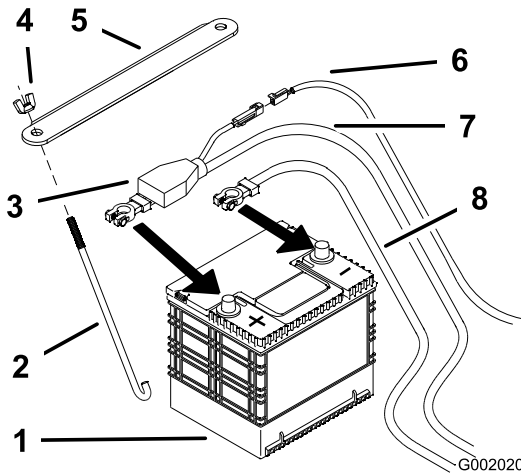

Figure 53
4. First disconnect the negative battery cable from the negative (-) battery terminal (Figure 53).
5. Slide the red terminal boot off the positive (red) battery terminal. Then remove the positive (red) battery cable (Figure 53).
1. Position battery in the tray with the terminal posts opposite from the hydraulic tank (Figure 53).
4. Secure the cables with 2 bolts (1/4 x 3/4 inch), 2 washers (1/4 inch), and 2 locknuts (1/4 inch) (Figure 53).
6. Secure the battery with J-bolts, hold down clamp, 2 washers (1/4 inch), and 2 wing nuts (1/4 inch) (Figure 53).